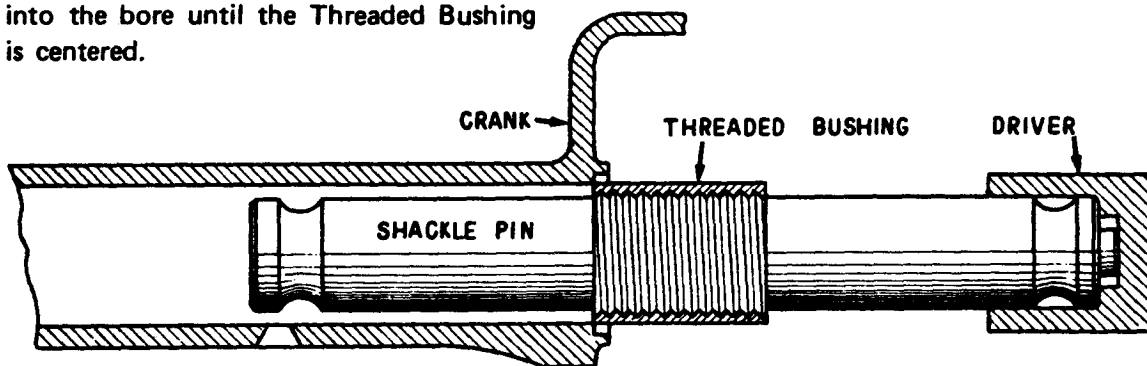

FIG. 5: PRESSING THREADED BUSHING INTO CRANK OR PERCH
3. Grease the Shackle Pin Threads and screw the Pin fully into the new Threaded Bushing (See Fig. 5).